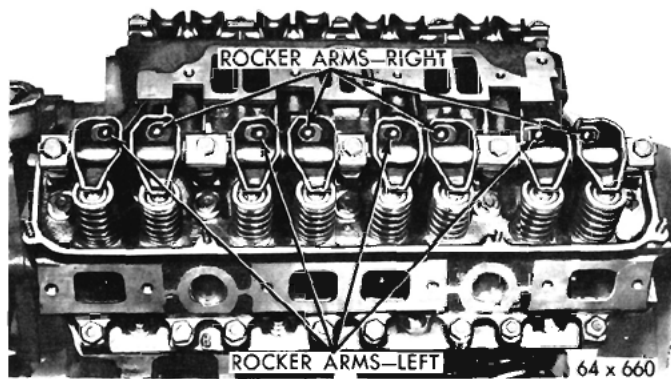

Fig. 65—Rocker Arm Assemblies Installed
- (1) Remove the cylinder head cover and gasket.
- (2) Remove the bolts that attach the rocker arm shaft to the cylinder head and remove the rocker arms and shaft as an assembly.
- (3) If the rocker arm assemblies have been disassembled for cleaning, inspection, or replacement, refer to Figure 65 for proper reassembly.